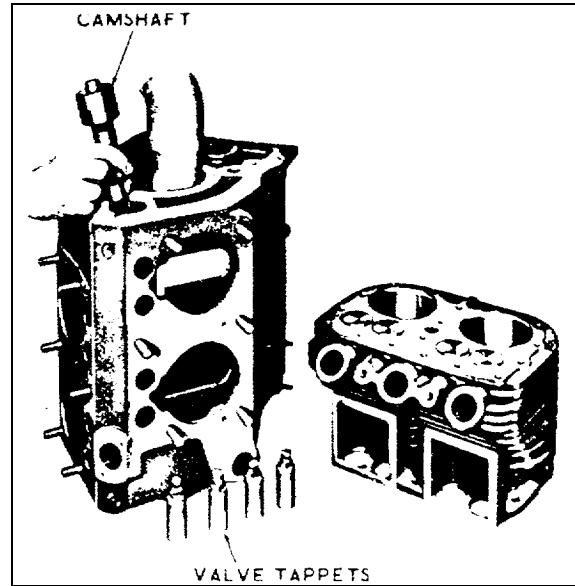

Figure 4-18. Removing Camshaft
(9) Remove cylinder blocks. Remove all valve tappets and withdraw camshaft from crankcase (figure 4-18). Remove three screws and lock washers and then pry gear off end of camshaft.